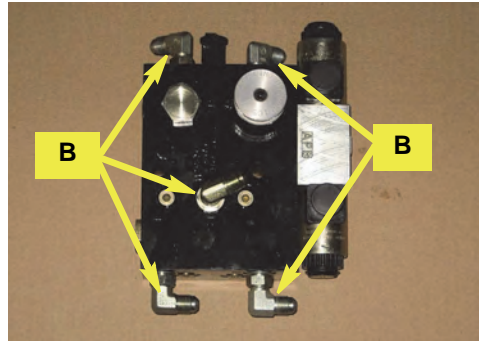

Figure 1: Prepared automated steering block
- b. Install the elbow adapter fittings (**B**) into the **LS**, **P**, **T**, **A** and **B** ports (Figure 1).